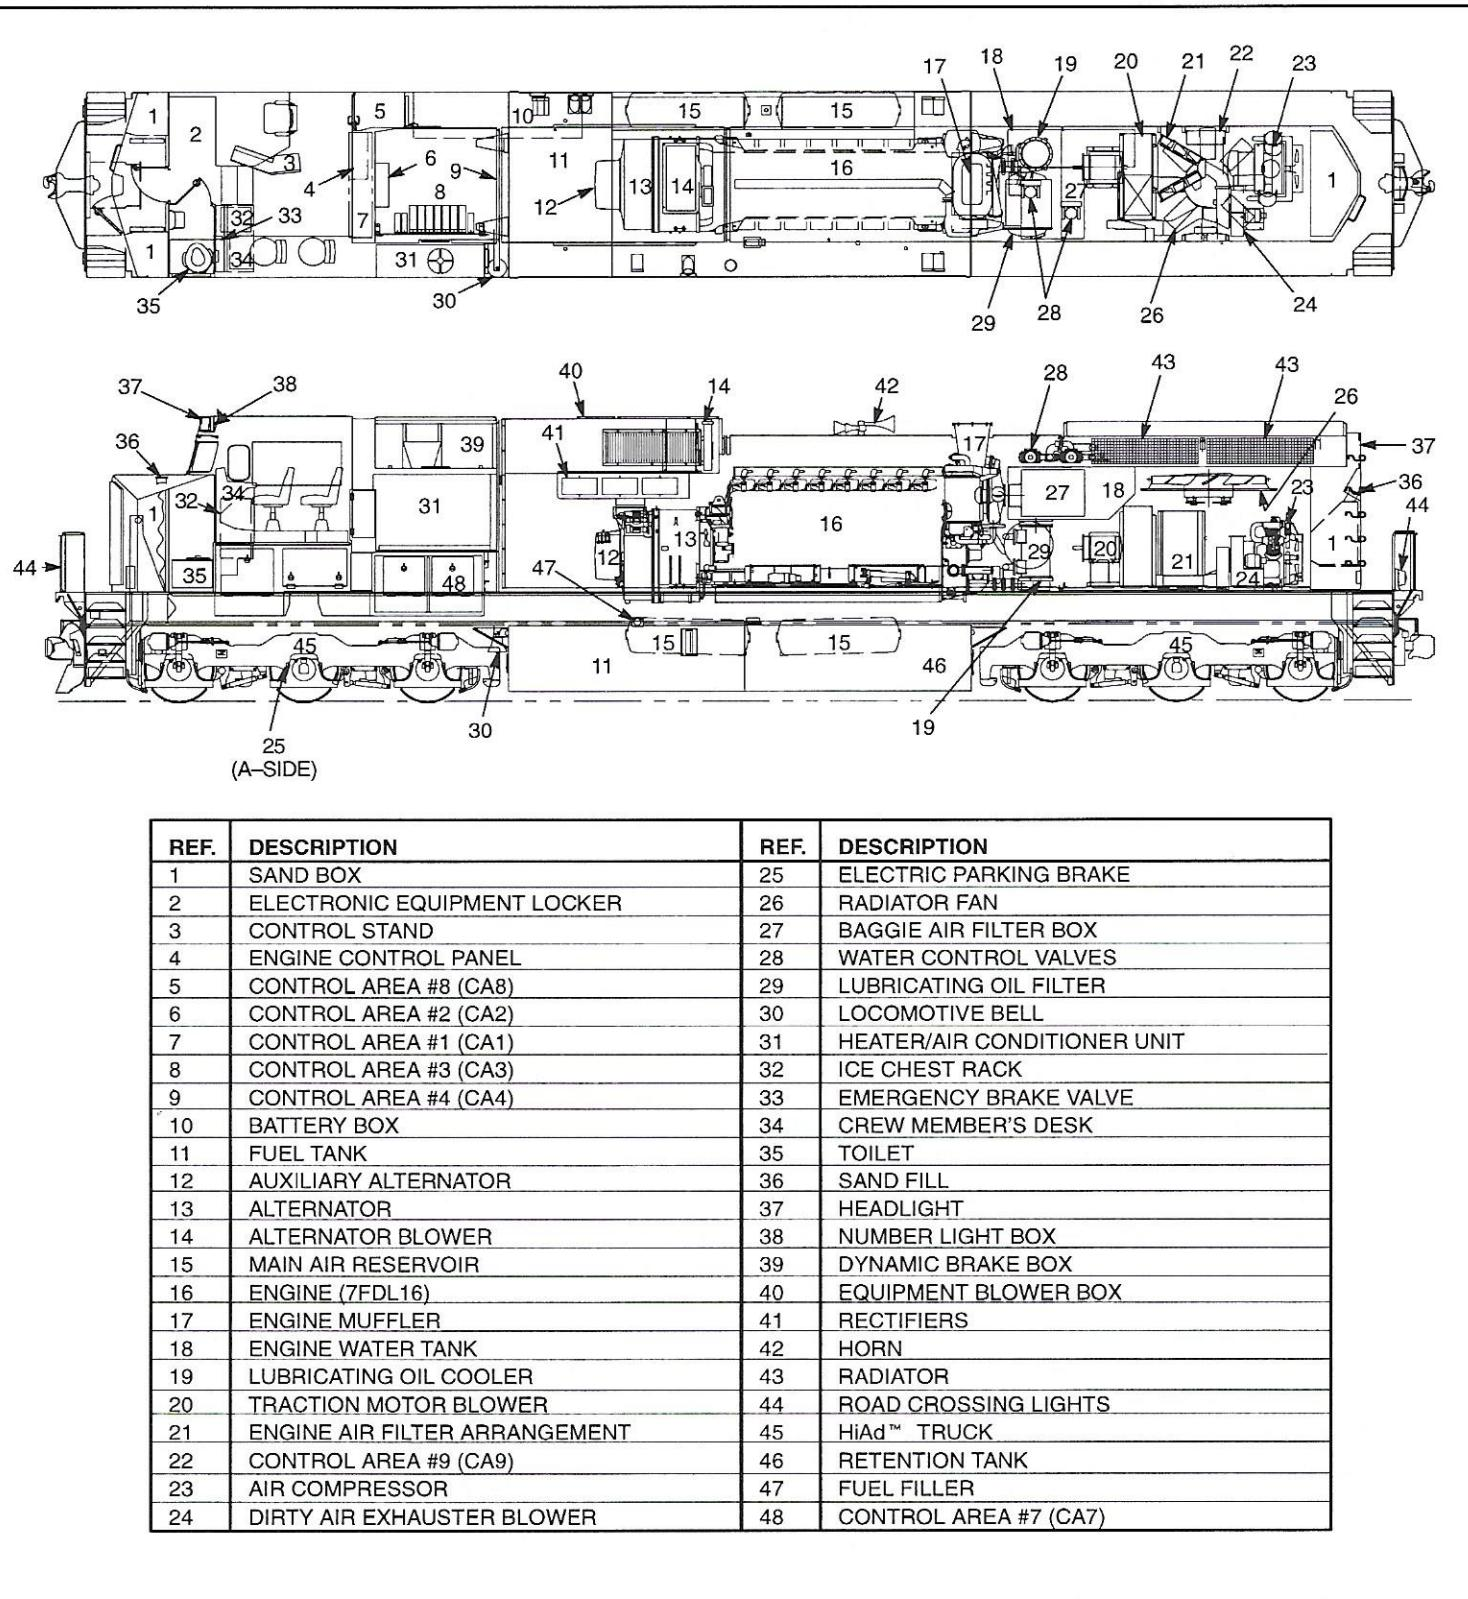

FIG. 2. TYPICAL LOCATION OF APPARATUS. E-43312.
Engaging this switch (1) will sound the locomotive horn (Item 42, Fig. 2) as long as the switch is depressed. The locomotive horn is interlocked with the bell (Item 30, Fig. 2) so that the bell will ring when the horn sounds. It is necessary to depress the Bell Switch (28) to silence the bell when it has been energized by this Horn Interlock.